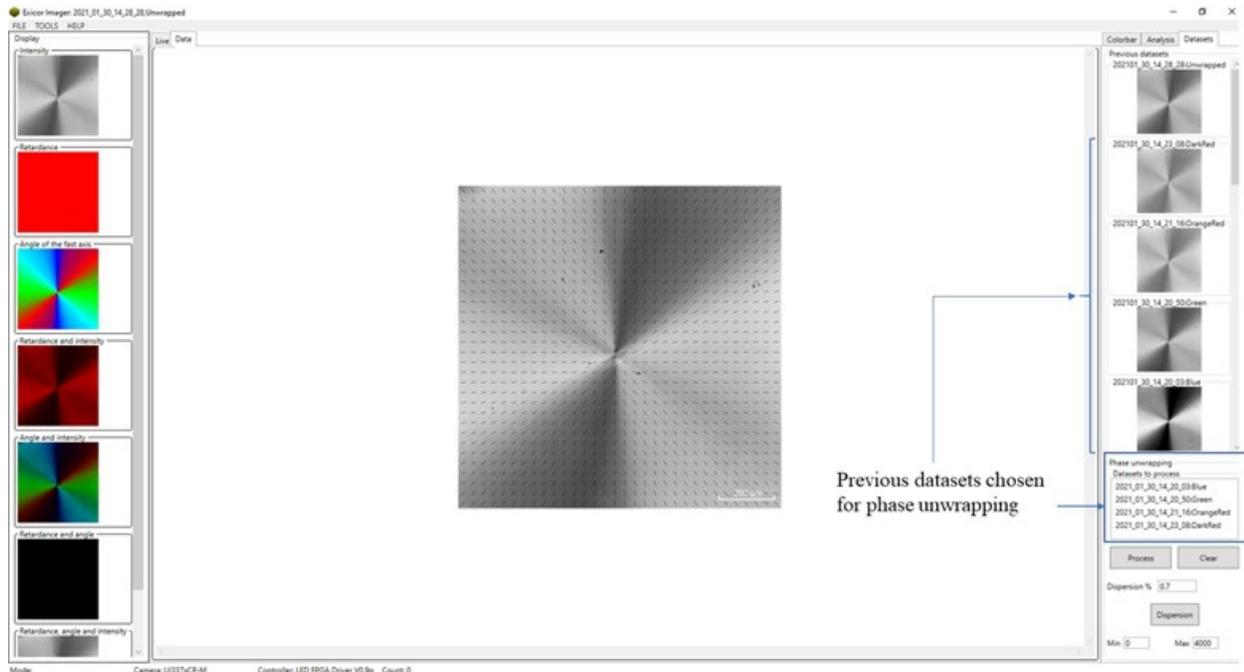

Fig. 12 Datasets window
18. Click the **Datasets** tab → Although you will see all the previous datasets, click and drag only the datasets that you want to include in the higher-order analysis to the “**Datasets to Process**” area → enter the minimum and maximum expected retardation. The maximum limit of retardation is 4000 nm. This **Phase Unwrapped** dataset will appear in the **Datasets** tab (as shown in Fig. 12) with analyzed numerical values in the **Analysis** tab.